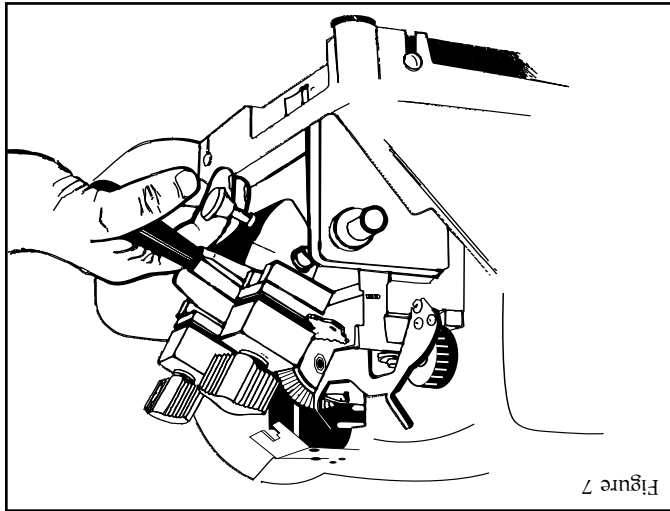

Figure 7
4. Pull down on the carriage handle while pulling out on the carriage trigger (Fig. 7). This will enable the carriage tension spring to lift the carriage into cutting position. (EASE the carriage into cutting position. DO NOT allow it so "slam" forward.) Once eased into position, remove your hand from the carriage handle; the